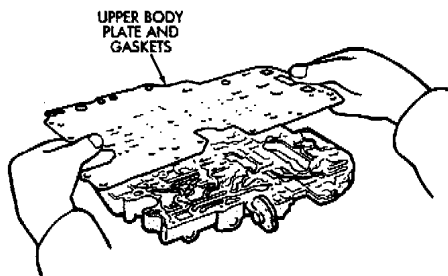

Fig. 1 Removing/Installing Upper Body Plate And Gaskets
(1) Remove valve body plate and gaskets (Fig. 1). Discard gaskets.